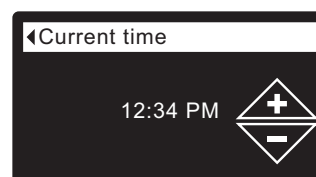

FIG. 36
5. Press the SELECT (O) button to display the Current time screen (See Figure 36).